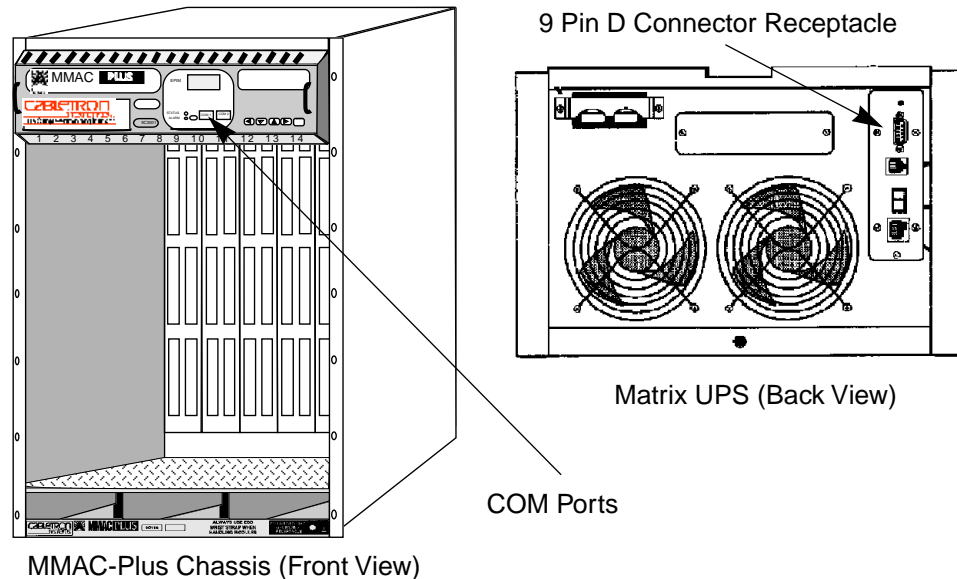

Figure B-1. Connecting EM to UPS
1. Plug the RJ-45/DB-9 adapter labeled "UPS" into the receptacle on the rear of the UPS (Figure B-1).
2. Plug one end of the cable with the RJ-45 connector into the RJ-45/DB-9 adapter labeled "UPS" on the rear of the UPS (Figure B-1).
3. Plug the other end of the cable with the RJ-45 connector into the COM2 port on the front of the EM inserted in the MMAC-Plus Chassis (Figure B-1).